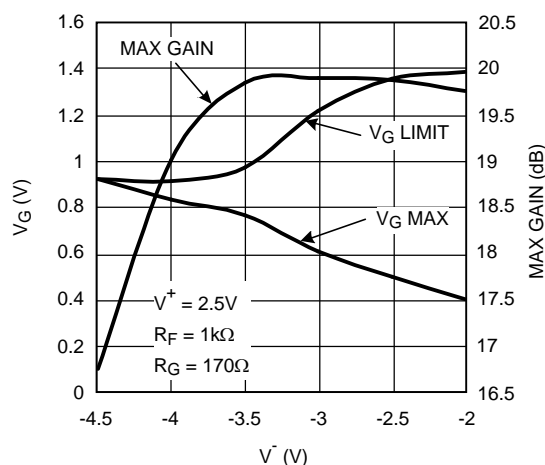
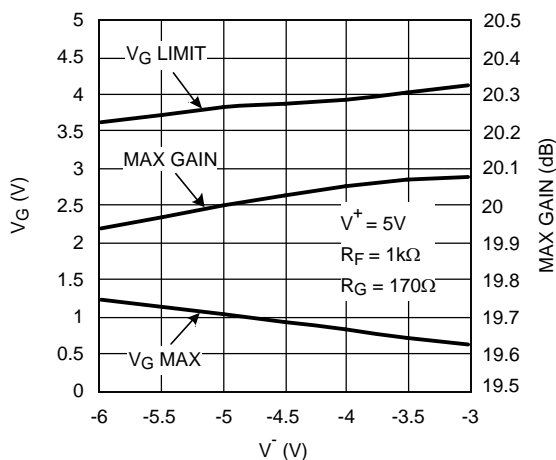

Figure 67. V_{G_MAX} , V_{G_LIMIT} , & Max-gain vs. V^- ($V^+ = 2.5V$)
Figure 68. V_{G_MAX} , V_{G_LIMIT} , & Max-gain vs. V^- ($V^+ = 5V$)
- V_G range constricts. Referring to Figure 67, note that V_{G_MAX} (V_G voltage required to get maximum gain) is 0.5V ($V_S = \pm 2.5\text{V}$) compared to 1.0V for $V_S = \pm 5\text{V}$. At the same time, gain cut-off (V_{G_MIN}) would shift to -0.5V from -1V with $V_S = \pm 5\text{V}$.
- b)** V_{G_LIMIT} (maximum permissible voltage on V_G) is reduced. This is due to limitations within the device arising from transistor headroom. Beyond this limit, device performance will be affected (non-destructive). Referring to Figure 67, note that with $V^+ = 2.5V$, and $V^- = -4V$, V_{G_LIMIT} is approaching V_{G_MAX} and already "Max gain" is reduced by 1dB. This means that operating under these conditions has reduced the maximum permissible voltage on V_G to a level below what is needed to get Max gain. If supply voltages are asymmetrical, reference Figure 67 and Figure 68 plots to make sure the region of operation is not overly restricted by the "pinching" of V_{G_LIMIT} , and V_{G_MAX} curves.
- c)** "Max_gain" reduces. There is an intrinsic reduction in max gain when the total supply voltage is reduced (see Figure 43). In addition, there is the more drastic mechanism described in "b" above and shown in Figure 67.
Similar plots for $V^+ = 5V$ operation are shown in Figure 68 for comparison and reference.